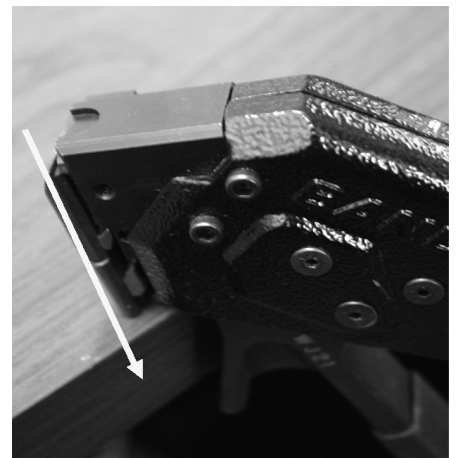

Figure 6
7. Using the edge of a table or bench, force the pull up lever against the blade. This will force the blade against the knife and ensure a zero-gap - Figure 6.